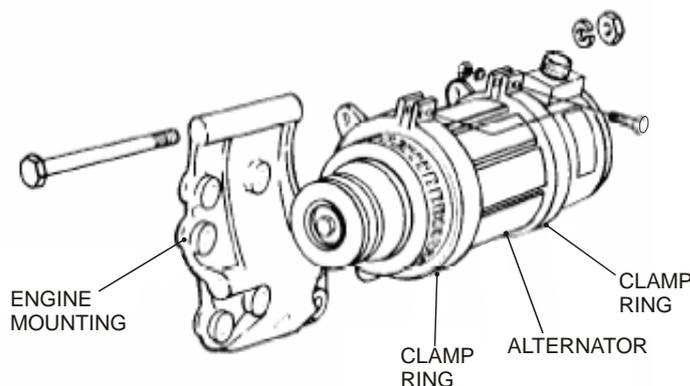

Figure 6 Alternator - Installation
- Fit the two clamp rings on the alternator and install the four bolts, nuts and washers, but do not tighten at this stage (Figure 6)